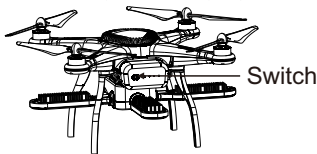

Figure 5-1: Switch Position Diagram
- ① The drone platform comes with an emergency landing protection function, before the drone takes off, please turn the switch on the tail of the drone (refer to Figure 5-1) to the “ON” state (Figure 5-2); After the drone platform has landed, if it is no longer necessary to continue to use, please turn the switch on the tail of the drone to “OFF” state (Figure 5-3).
- ② When you use the drone normally, the battery on the tail will be charged automatically; if the drone has not been used for a long time, it is recommended that you open the switch on the tail of the drone to check the battery power every 15 days, if the indicator light “L1” keeps flashing, it means that the battery power is low, and you need to connect the drone to the power supply for charging, and the battery will be fully charged in about 30 minutes.